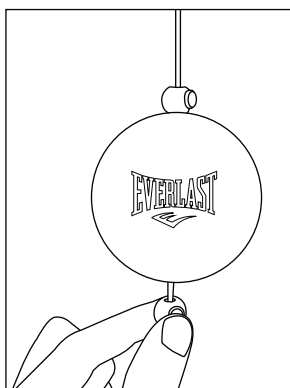

FIGURE 5
STEP 3: Next, adjust ball height, on the rope to match the height of the user. Use two adjusters, on both ends of the ball, to slide into the desired location. (FIG. 5)